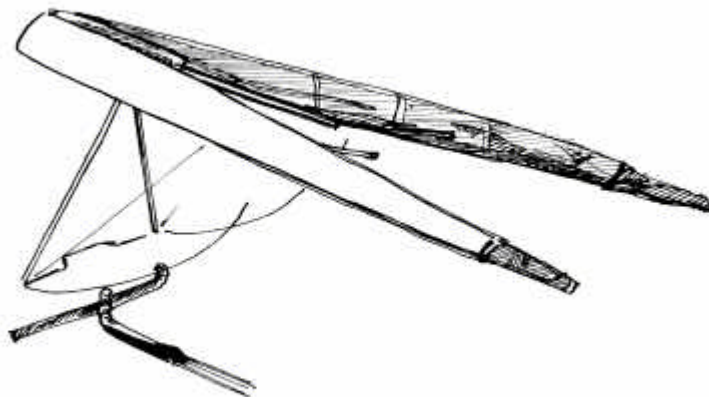

Fig. 4
2.2.2. Set the glider on the control bar, spread the leading edges so that sail is a little sagged and the glider is resting on the wing tips and on the keel tube (Fig. 4). The keel battens must be rested on the keel tube. Secure the ring of the bottom front wires on the hook on the nose junction.